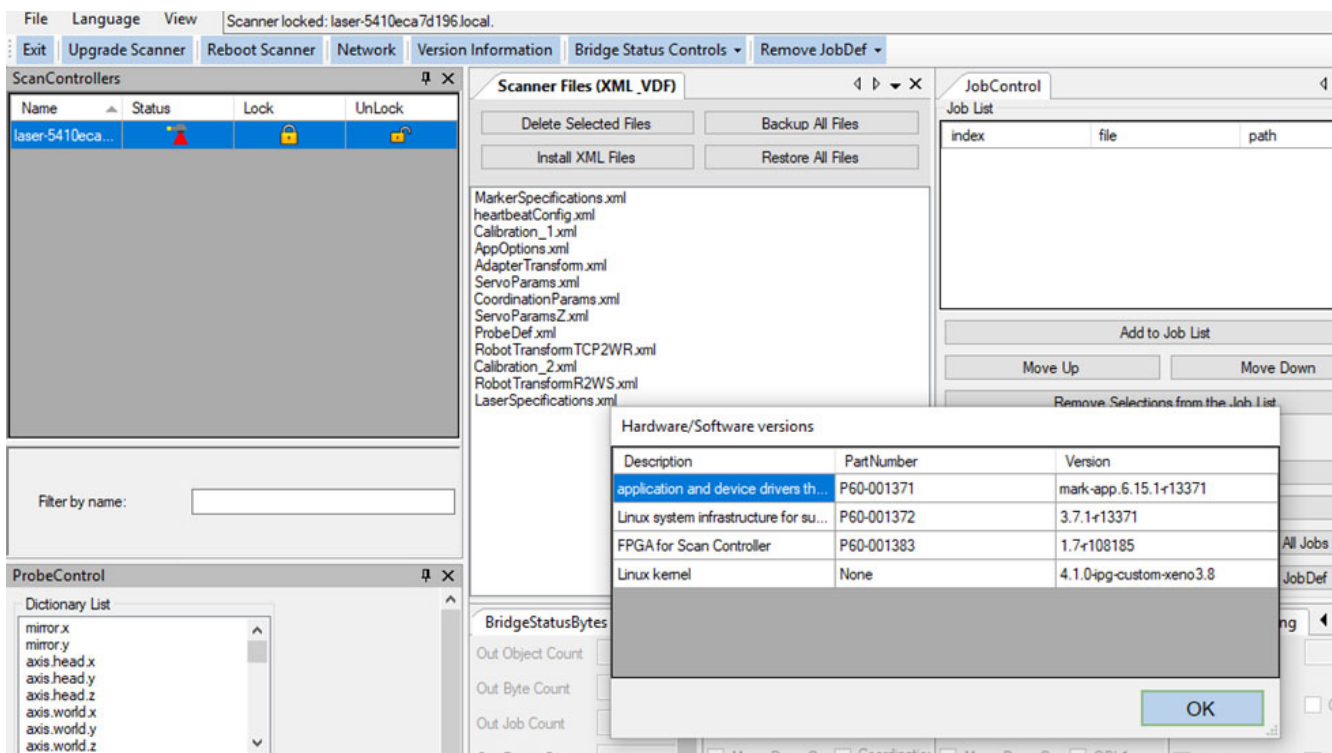

Figure 393: Viewing Scan Controller Firmware Version Information
- A pop-up will then appear with the appropriate information. See Figure 393 (below).